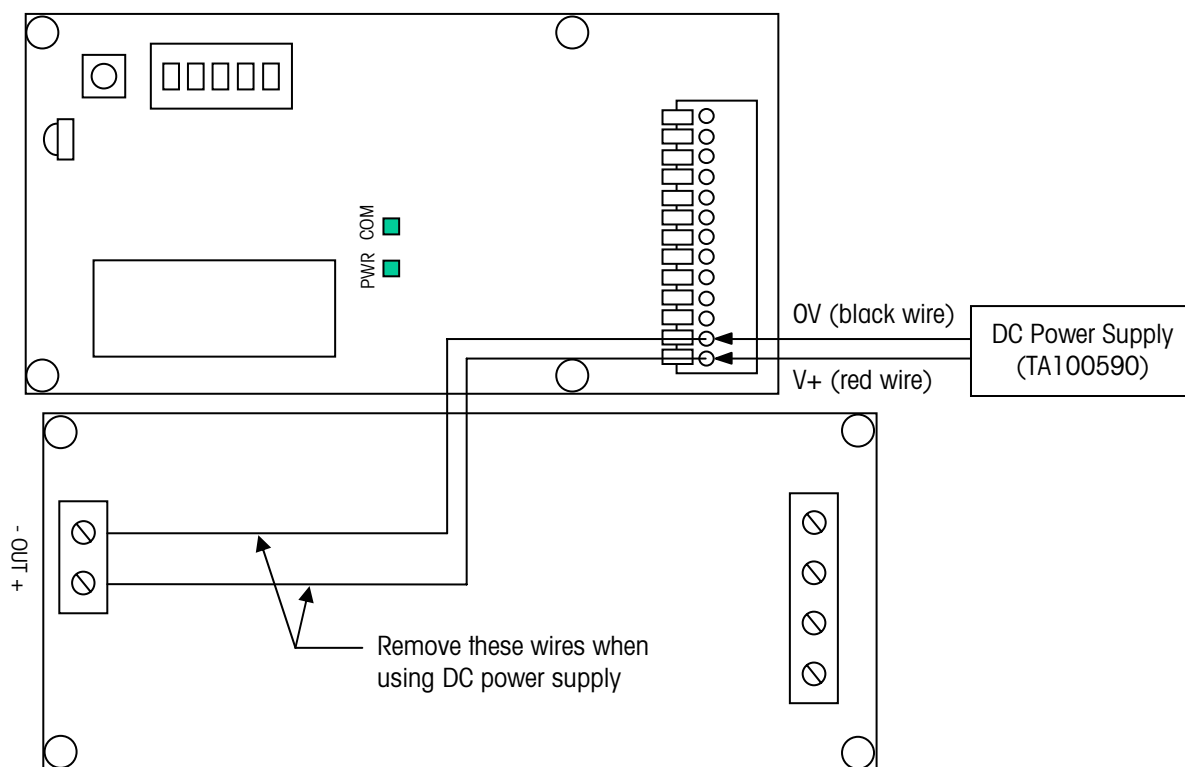

**Figure 2-1: Power Supply Cable Wiring**
4. Wire the cable to the Line, Neutral, and Ground terminals as shown in Figure 2-1.
NOTE: Connect the shield wire from the data line cable to the ground terminal as shown in Figure 2-1. At the scale terminal, connect the shield wire to the same ground point as the outer drain wire from the home run cable (see drawing TC100460).
NOTE: Wrap the data line cable around a ferrite ring as shown in Figure 2-1.